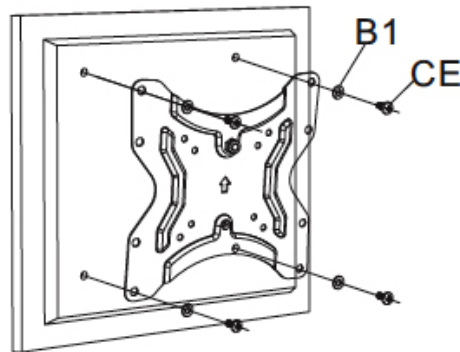

Figure 4B
4. Thread the bolts along with **Washer (B1)** into the TV, then tighten them with a Phillips screwdriver by turning clockwise until fully tight, see **Figure 4B & 4C**.
**Note:** A washer is not required with **Bolt (D)**.